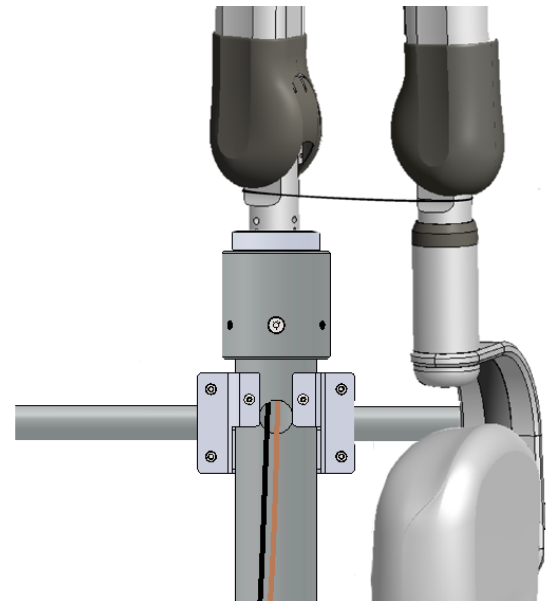

Figure 91
- Lock the scissor arm in folded position by tying with a long cloth & tying a knot or using a long cable tie as shown in Figure 91 .